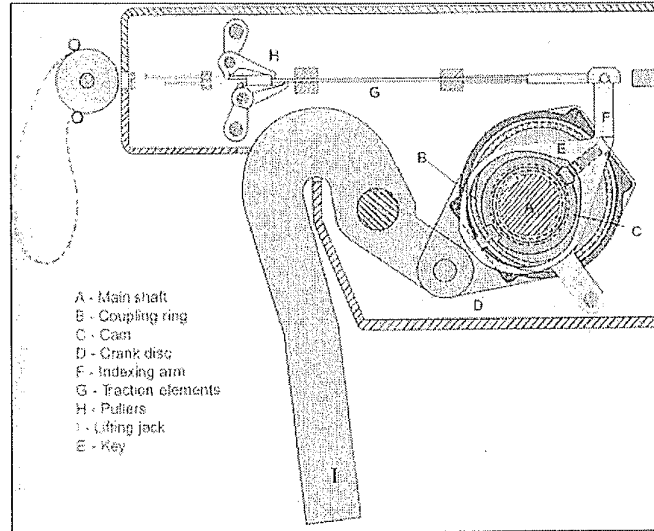

Figure 02.
- (a) Figure 02. Shows a Rotary dobby mechanism. Discuss the working principle of the Rotary Dobby mechanism, explaining the roles of its key components in lifting the heald frames. Compare it with traditional dobby systems and highlight its advantages. (07 marks)